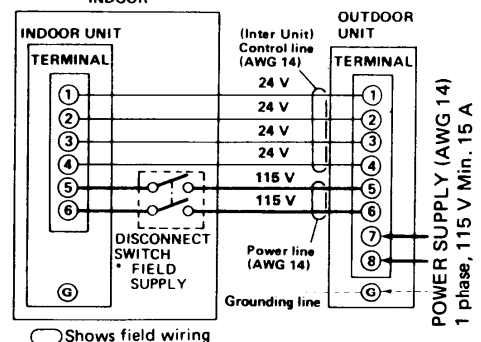

Fig. 8
- Properly connect power supply mains and interunit lines to corresponding terminals on the terminal block. Refer to the wiring diagram in Fig. 8, which is labelled on the access panel.